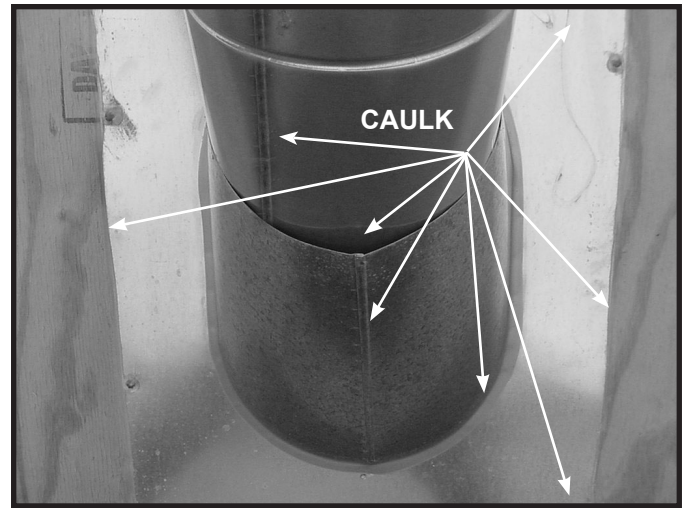

Figure 7.10
- Slide the roof flashing over the pipe sections extending through the roof as shown in Figure 7.10.
- Caulk the perimeter of the flashing where it contacts the roof surface. See Figure 7.10.